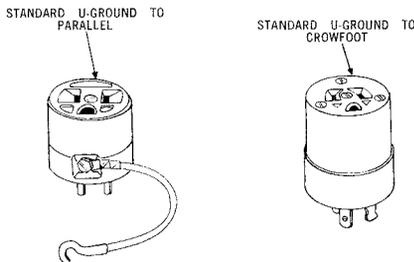
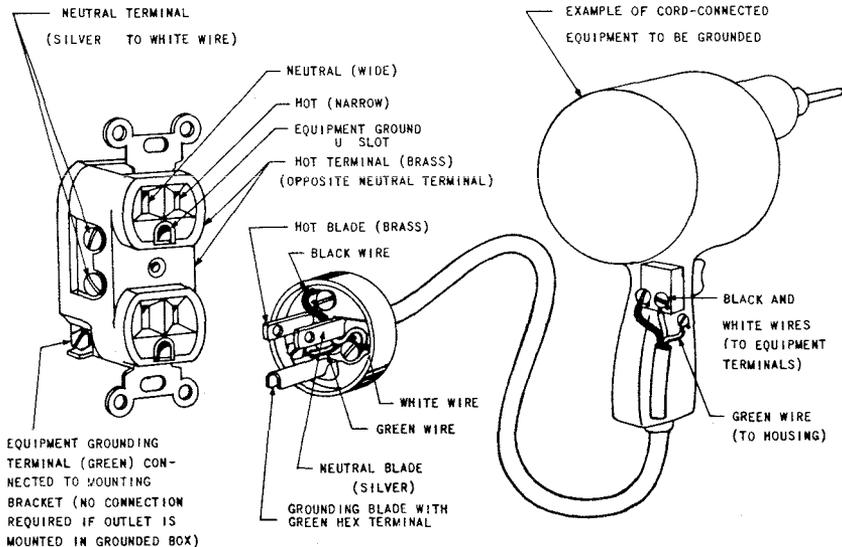

Fig. 5 — Adapters
Fig. 6 – Typical Bell Canada Arrangement
4.02 Except for the tools mentioned in Para. 4.01, the U-Ground plug is currently furnished as standard equipment with all Bell Canada tools. If commercial power receptacles of the 2-Conductor parallel or crowfoot types are encountered on the customer's premises, one of the appropriate adapters shall be used. (See Fig. 5)
tion of a U-Ground plug to a comparable U-Ground receptacle (See Fig. 6). If outlet has a crowfoot or 2-Conductor parallel receptacle, use appropriate adapter. (See Fig. 5).